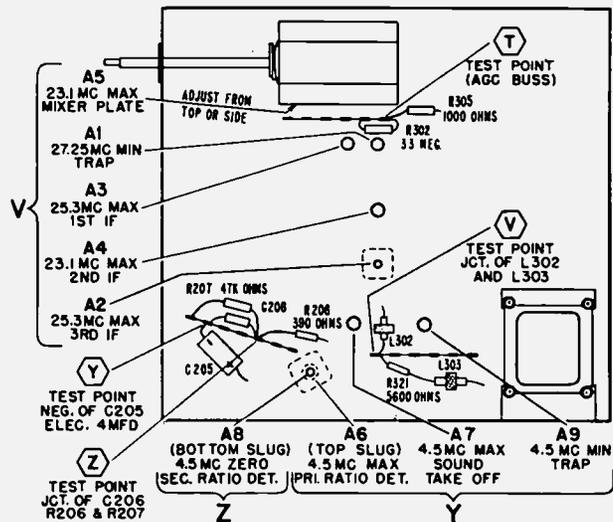

Figure 11. Bottom View of Chassis Showing Test Point Connections and IF Alignment Data.
- Connect bias battery; negative to test point "T", see figure 11, positive to chassis. A $4\frac{1}{2}$ volt battery is required for all steps below.